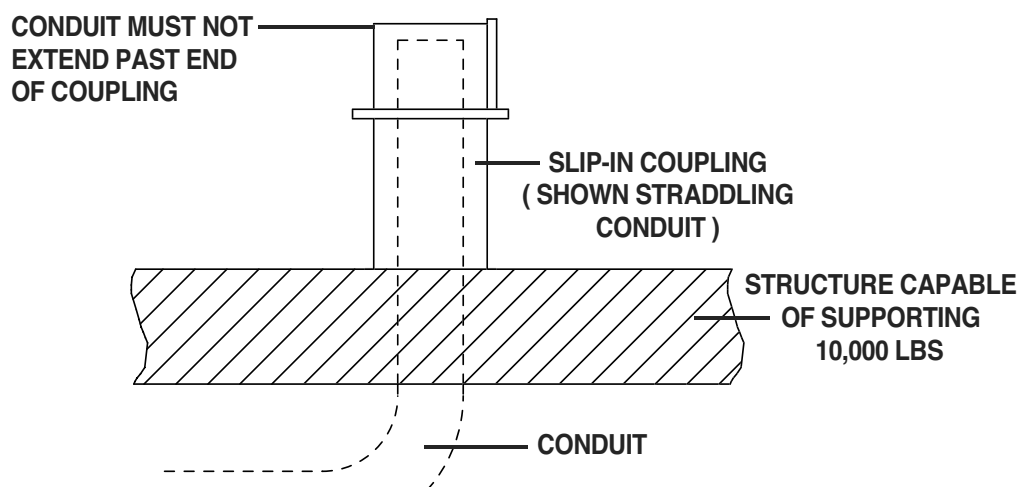

Figure 12a
2. Place the coupling over the conduit. The conduit must NOT extend past the end of the coupling. (See Figure 12a)